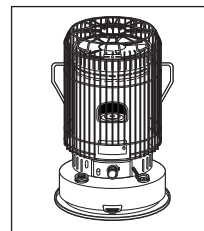

Fig.9
G) Now your heater is completely assembled.(Fig. 9)